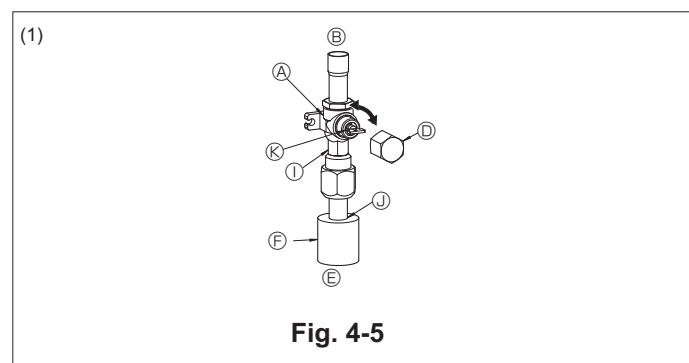

Fig. 4-5
- If the pressure decreases in steps (2) or (3), there is a gas leak. Look for the source of the gas leak.
- Gas side of A24-A42 (Fig. 4-5)